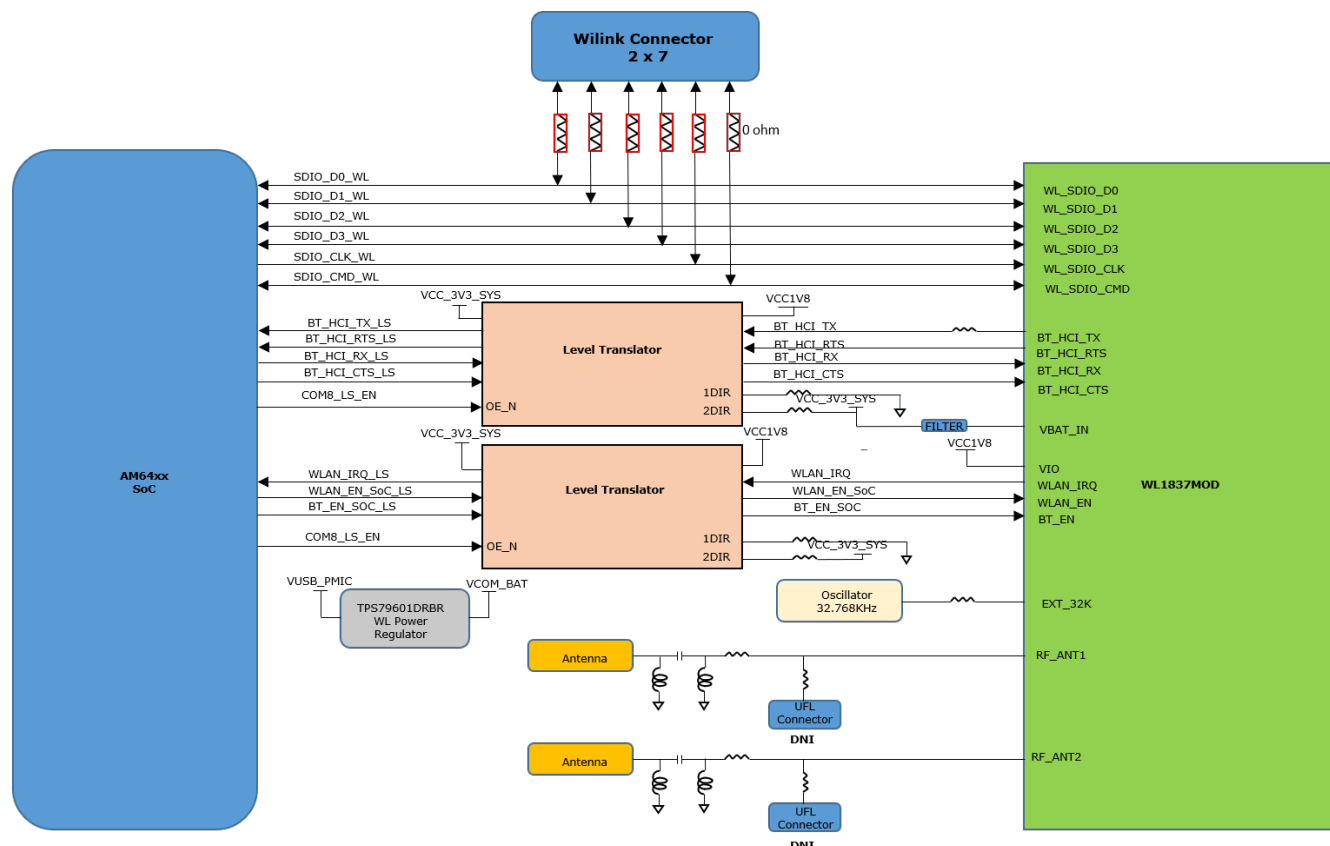

Figure 4-10. WiLink Module Interface
- Assisted WB-speech (AWBS): modified SBC codec implemented internally. Figure 4-10 shows the block diagram of Wilink module interfaced with AM64x.